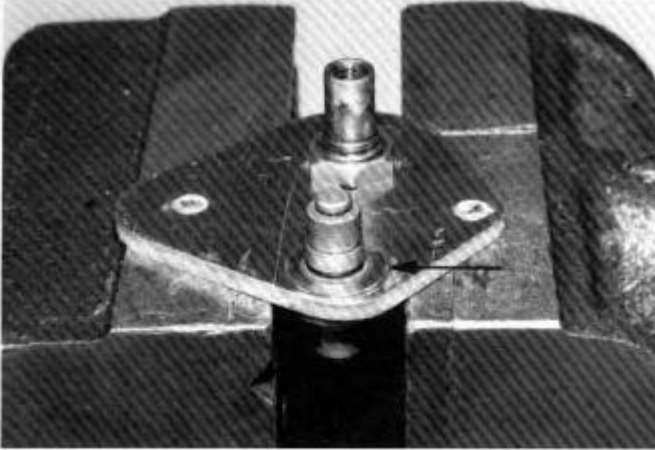

FIG. 36
□ **FIG. 36**—Turn the plate over and take the flat steel washer and slip it over the pivot as shown by the arrow.